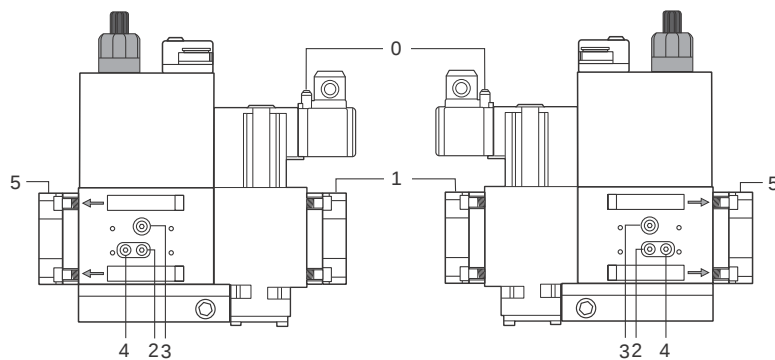
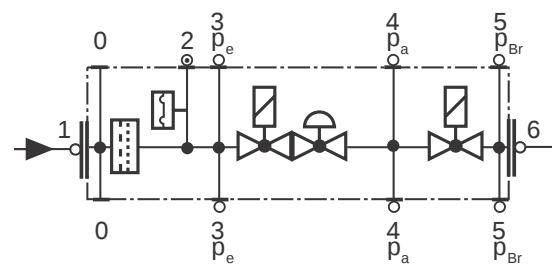

Fig. 35
Fig. 36
- 1 remove the cap unscrewing the fixing screws (A);
- 2 remove the filtering cartridge (B), clean it using water and soap, blow it with compressed air (or replace it, if necessary)
- 4 be sure to replace the "O" ring into its place (C) and replace the cover fastening by the proper screws (A).
- Change the filter if the pressure difference between pressure connection 1 and 2 (Fig. 35-Fig. 36) $\Delta p > 10$ mbar.
- Change the filter if the pressure difference between pressure connection 1 and 2 (Fig. 35-Fig. 36) is twice as high compared to the last check.